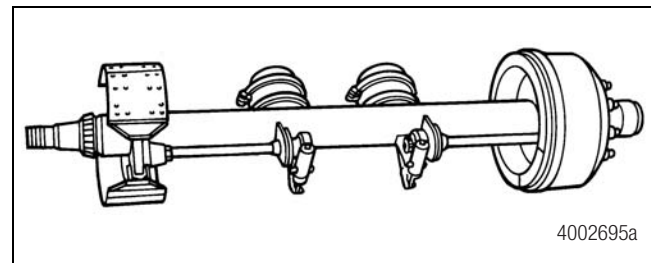

Figure 2.1
- Straight beams, such as the TN, TP, TQ and TR models. Figure 2.1.